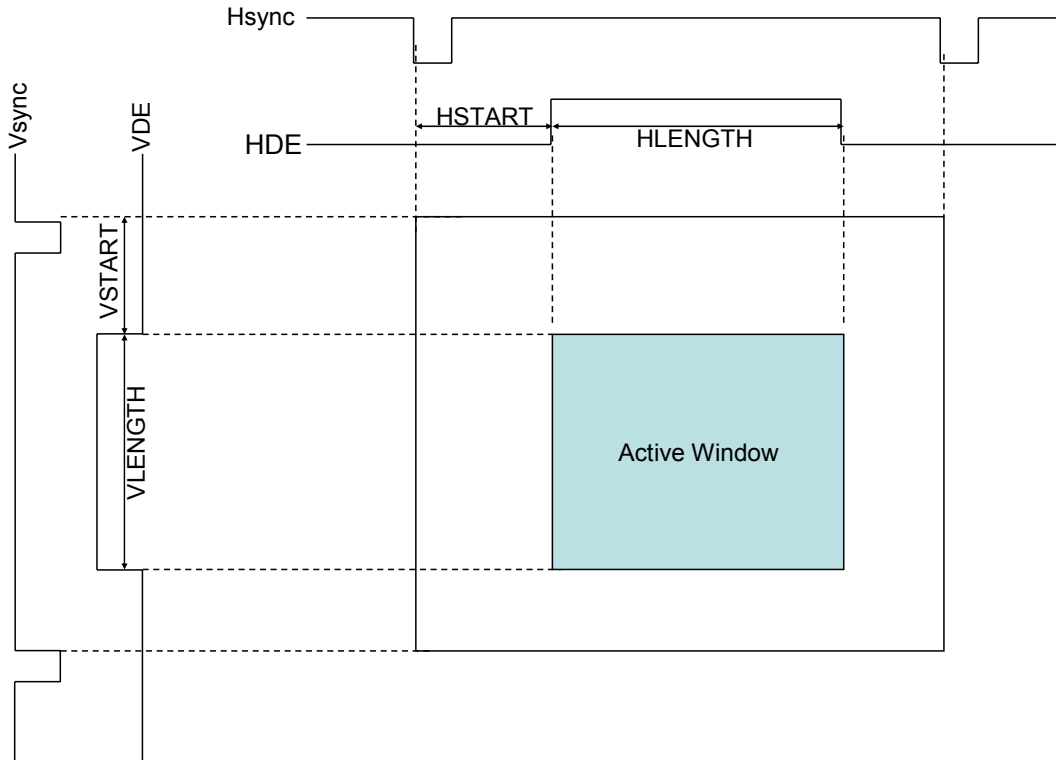

Figure 8.1.4
2. Active window capture: AL9V576 generates the internal data enable signal to mask the active video data in both horizontal and vertical directions. This function can also be used to crop the image size. The capture window is set by programming the “HSTART”, “HLENGTH”, “VSTART”, and “VLENGTH” registers. Figure 8.1.4 illustrates the timing of video capture.